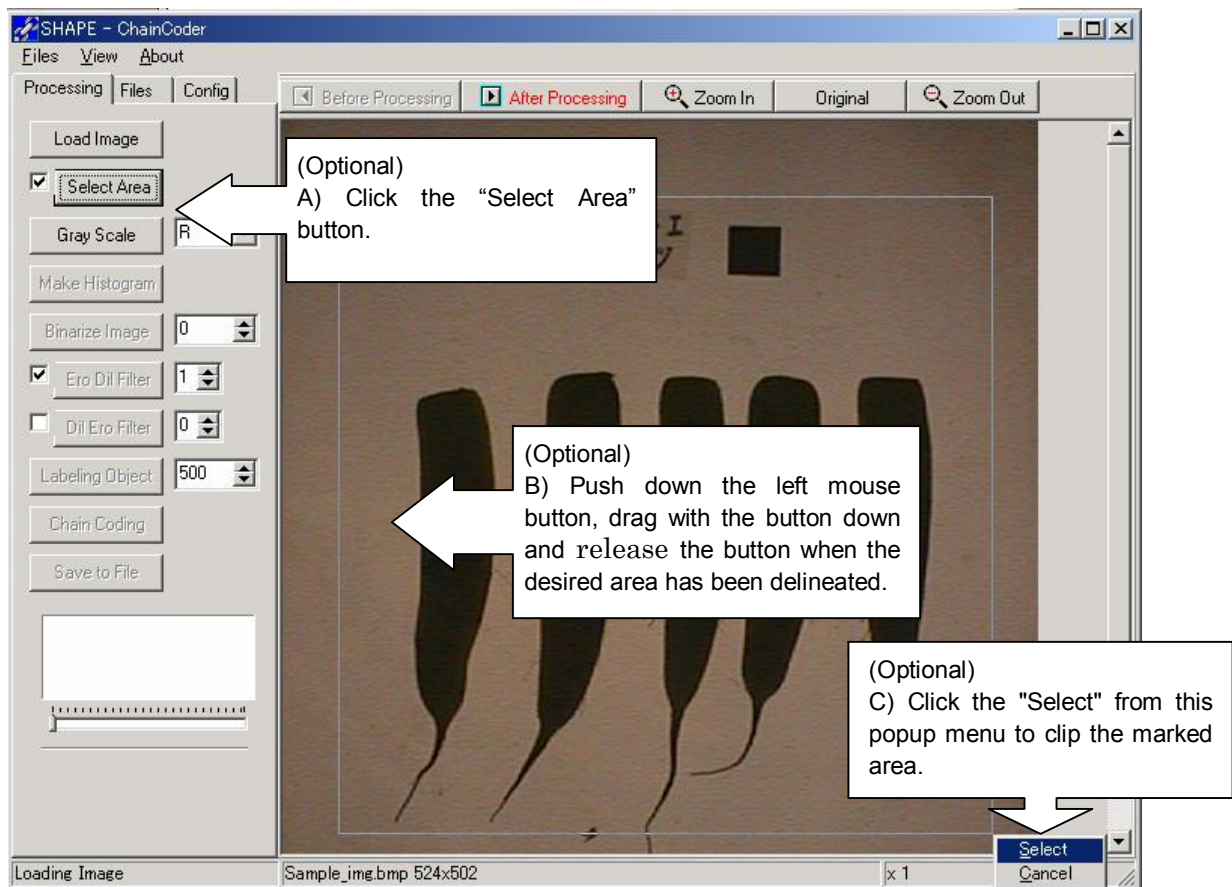

Fig. 7
6. (Optional) If you want to process the part of the image, select the processing area as follows (A-C) (Fig. 7)